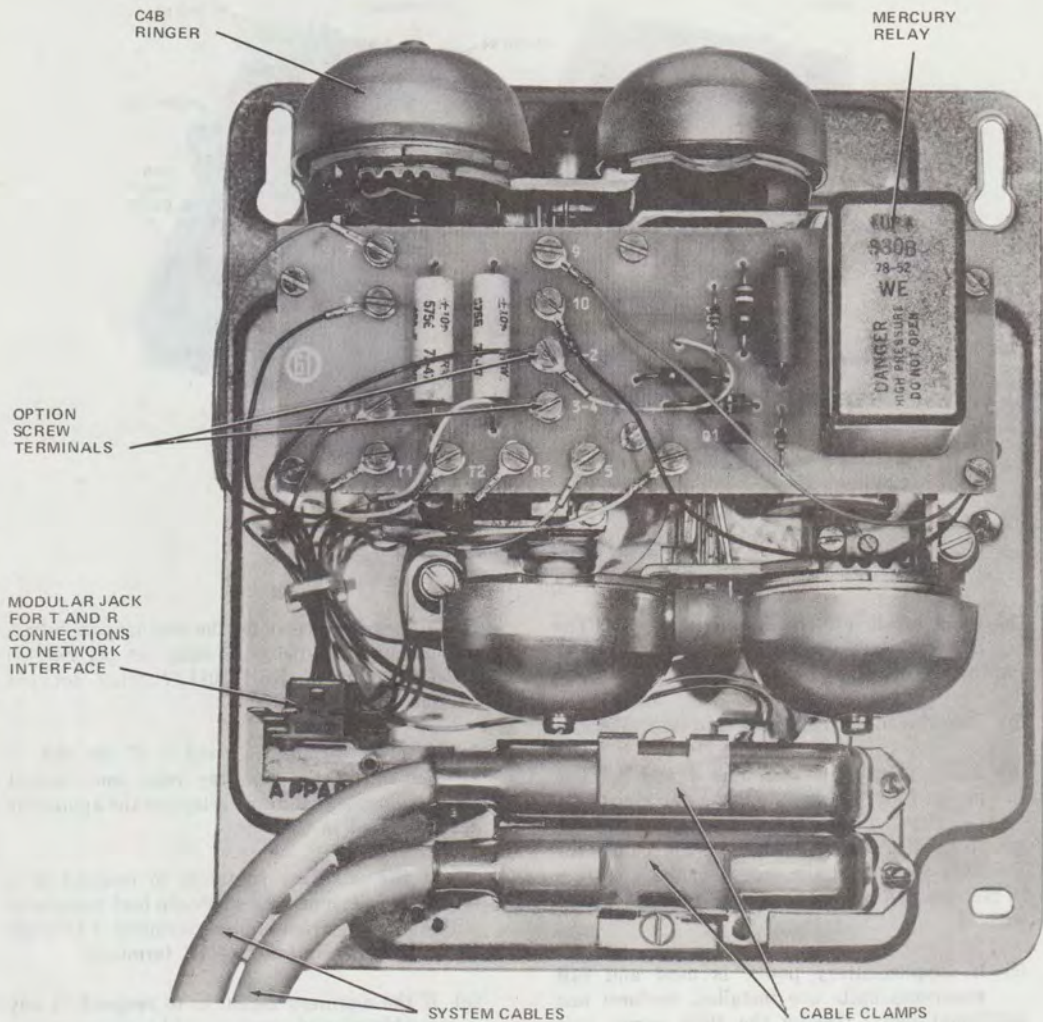

Fig. 32—24B Apparatus Unit
3.46 Locate the 24B apparatus unit (Fig. 32) near the telephone where power failure ringing is required. Remove the cover and mount the base pan assembly on a vertical surface so that the mercury relay on the wiring board is in a